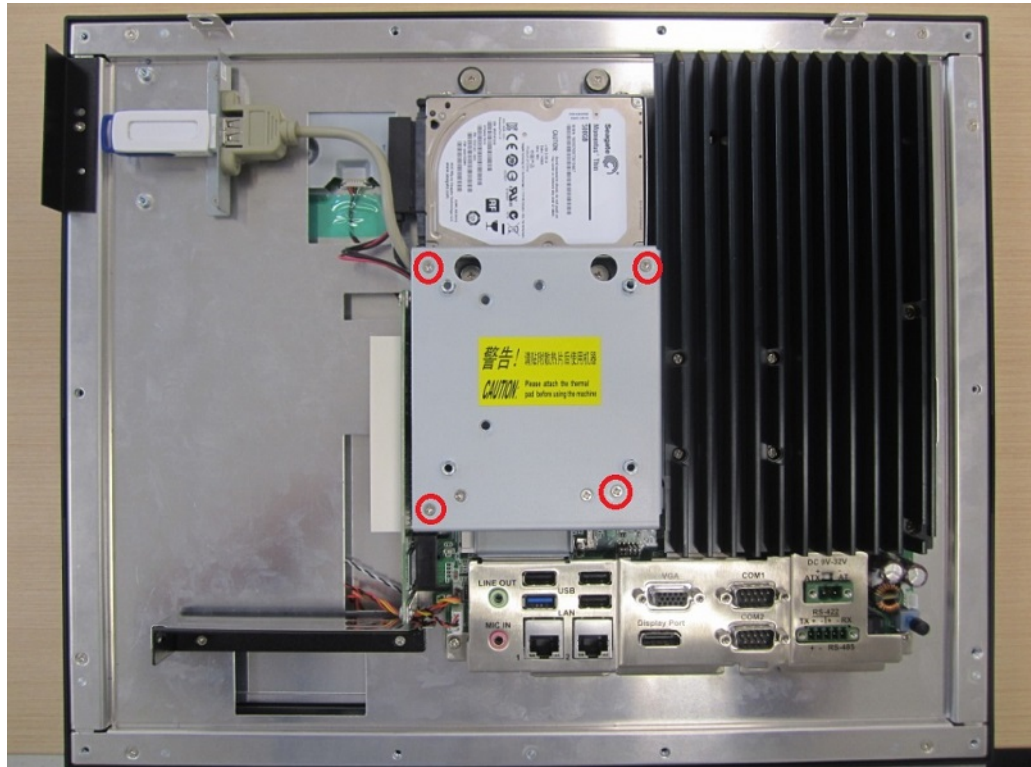

Figure 2.50
3. Replace the VESA mount plate (as shown in Fig. 2.50) and secure in place using four screws. Then replace the rear cover to complete the installation.